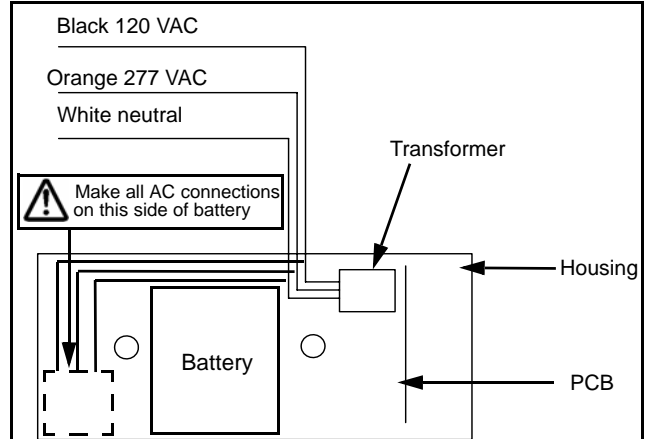

Figure 4
7. Make the proper connections. The system can accept input voltages of 120/277 VAC (see fig. 4).
IMPORTANT: Route entry wires to avoid contact with the transformer, battery terminals and charger PCBA. Refer to figure 4.